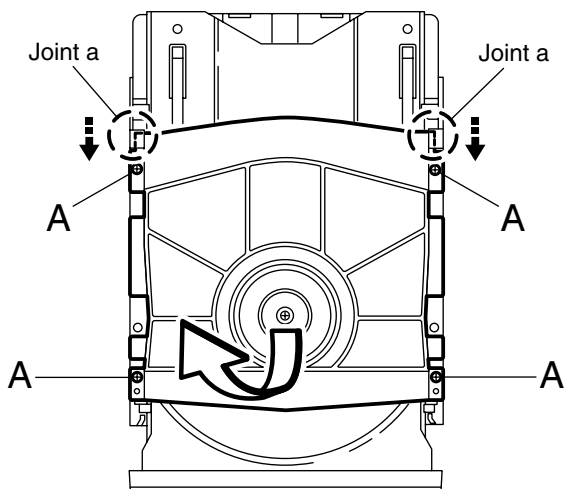

Fig.1
■ Removing the clamber assembly (See Fig.1)